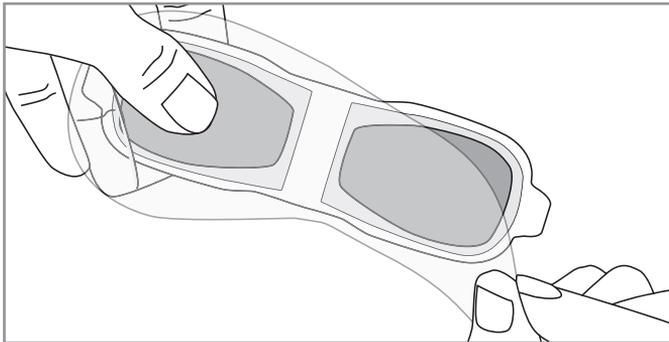

Figure 9-2: Remove the Gel Electrode Liner
1. Remove the liner and store it in the Gel Electrode Carrying Case. See Figure 9-2.